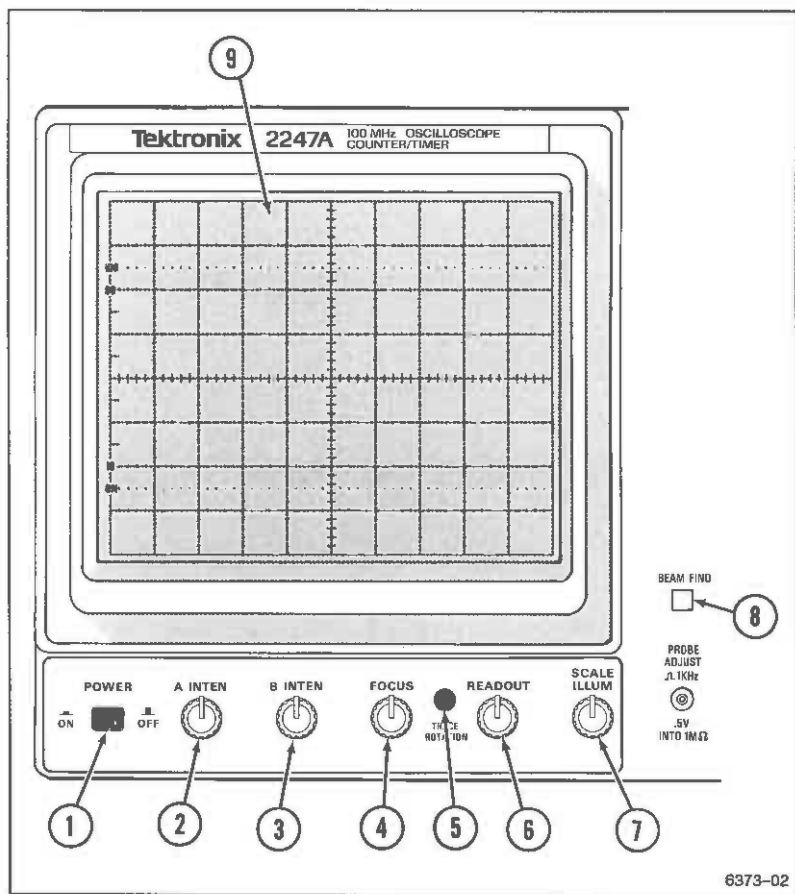

Figure 2-1. CRT, power, and display controls.
Refer to Figure 2-1 for location of items 1 through 9.
- ① **POWER Switch**—Turns on or off instrument power. Press for ON or OFF.